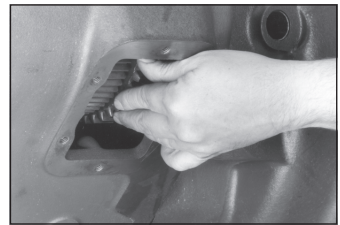
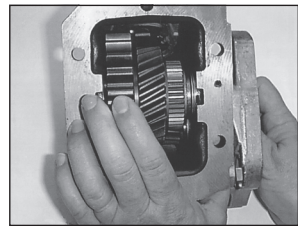

Fig. 3
Fig. 4
3. Using your hand, rock the P.T.O. driver gear in the transmission (Fig. 3) and the driven gear in the P.T.O. assembly (Fig. 4). Rocking the gears provides two important factors.